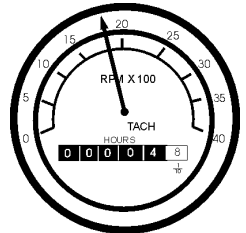

Figure 50. Engine Tachometer Gauge
11. The **tachometer gauge** (Figure 50) will indicate the speed of the engine when the generator is operating. Under normal operating conditions this speed is approximately 1600 RPM's.